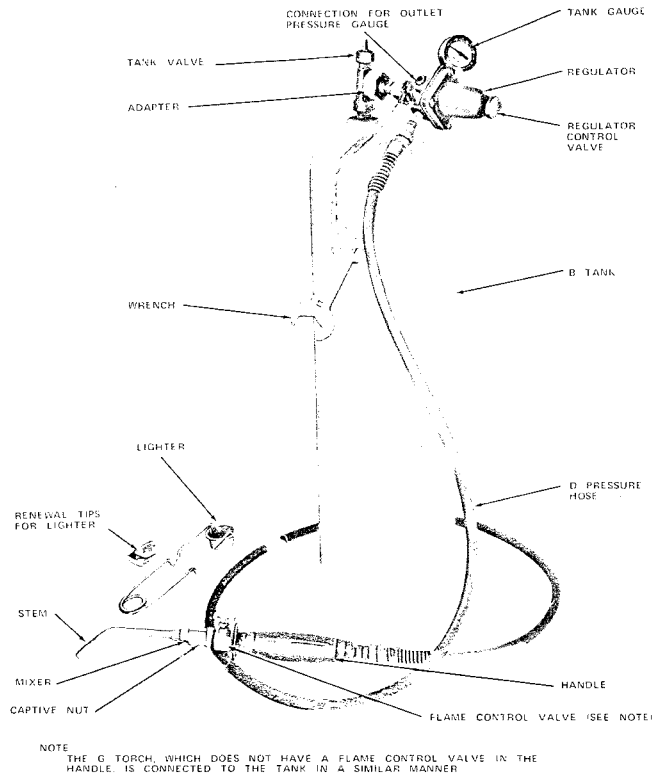

Fig. 2—F Acetylene Torch Connected to B Tank
2.05 The F acetylene torch connected to a B tank is illustrated in Fig. 2. Note the use of the adapter to connect the regulator to this tank.
7.01 The acetylene gas is supplied in MC and B tanks at a pressure of 250 pounds per square inch at 70°F. The MC tank is illustrated in Fig. 1 and the B tank in Fig. 2. The tanks are tested by the supplier in accordance with Federal regulations for such equipment and are marked to indicate that they have been tested. The markings on the tanks shall not be tampered with or removed.